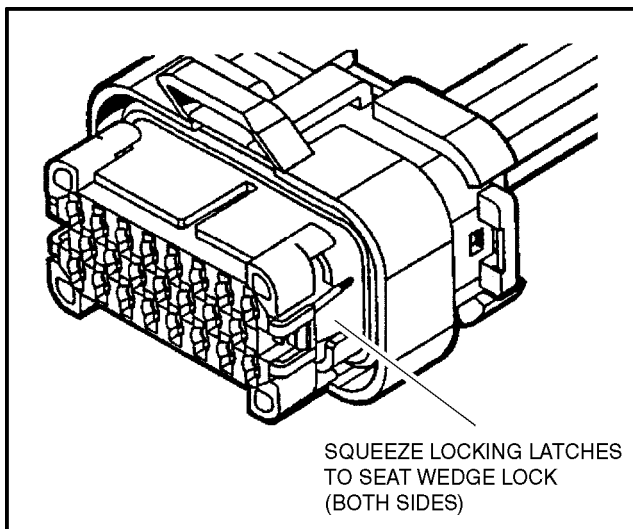

Figure 2-4. Connector Assembly Figure 3
3. After all required contacts have been inserted, the wedge lock must be closed to its locked position. Release the locking latches by squeezing them inward (See Figure 2-4.).